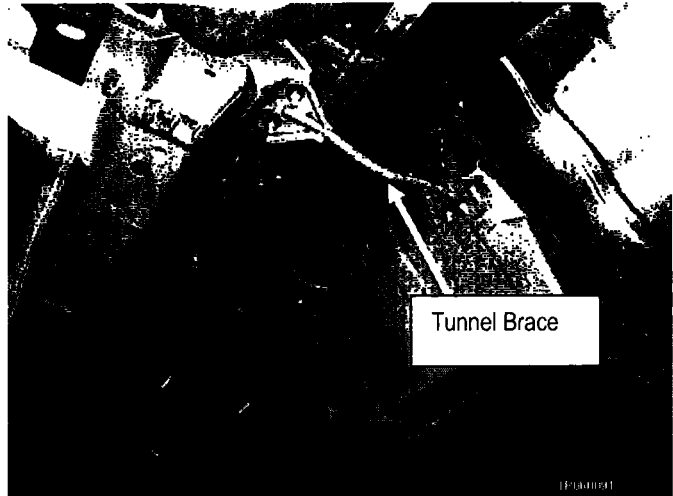

Figure 18
23. If applicable, remove four nuts and remove the tunnel brace (see Figure 18).